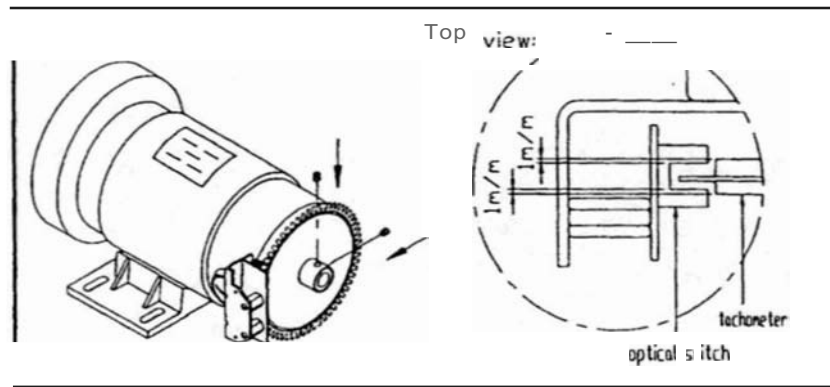

Fig.6
7. Be sure to adjust the tachometer wheel located in the middle of the sensor. Fasten optical switch. Then use the Hex Allen Wrench to tighten the tachometer wheel with two socket screws. (see Fig.6)